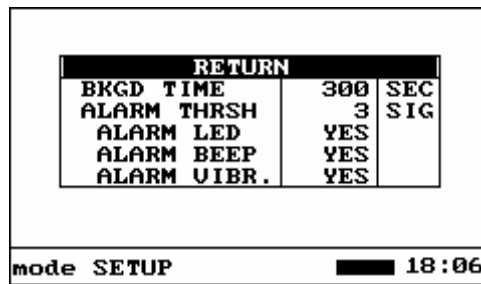

Figure 20. Submenu “MEASURE OPTIONS”
1.3.3.6.6. Setting options in the BACKGROUND and SEARCH mode is realized in the submenu "MEASURE OPTIONS" (Fig. 20).